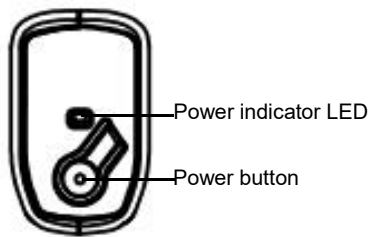

Fig 15
1. Press the power button “” on Multi Control Display Unit to light the screen (Fig 15).